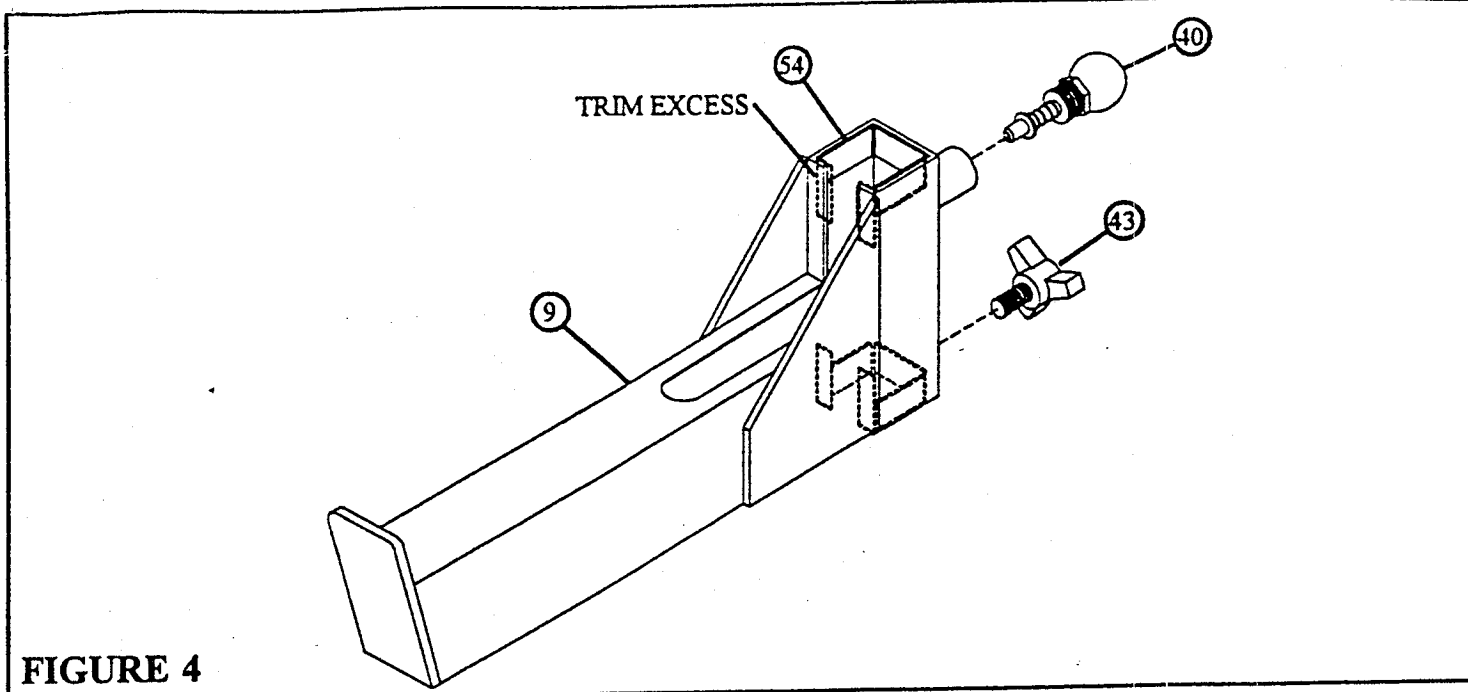

FIGURE 4
- Attach ten 1-1/2 X 3/4" GLIDES (54) to both SAFETY RAILS (9) as shown in FIGURE 4.
- SECURELY assemble one SPRING PIN ASSEMBLY (40) to both SAFETY RAILS (9) as shown in FIGURE 4.
- Thread one THUMBSCREW (43) into both SAFETY RAILS (9) as shown in FIGURE 4.